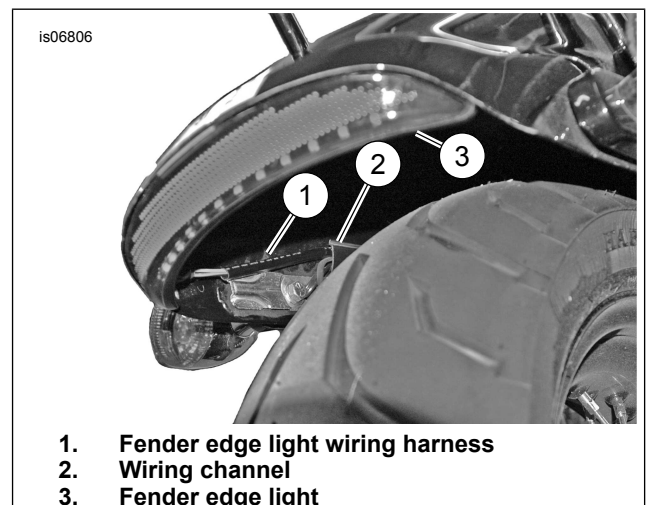

Figure 1. Fender Edge Light - Dyna Shown, Sportster Similar
4. See Figure 1. Test the fit of the fender edge light into the open end of the rear fender to verify that the fender edge light will fit properly without obstruction.